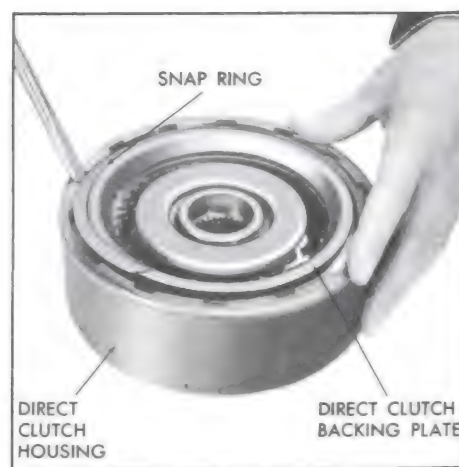

Figure 5-625
3. Turn unit over and remove backing plate to clutch housing snap ring. See Figure 5-625.